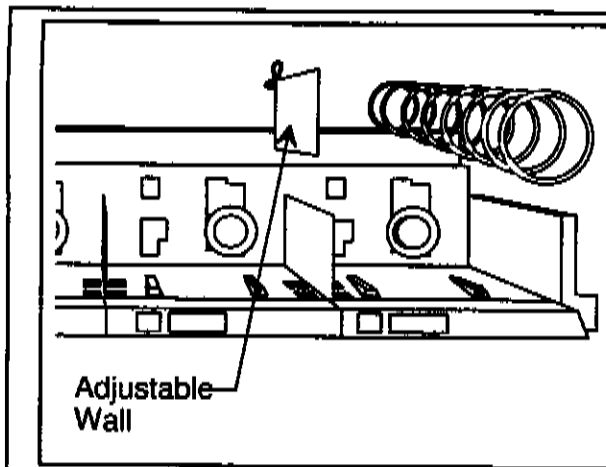
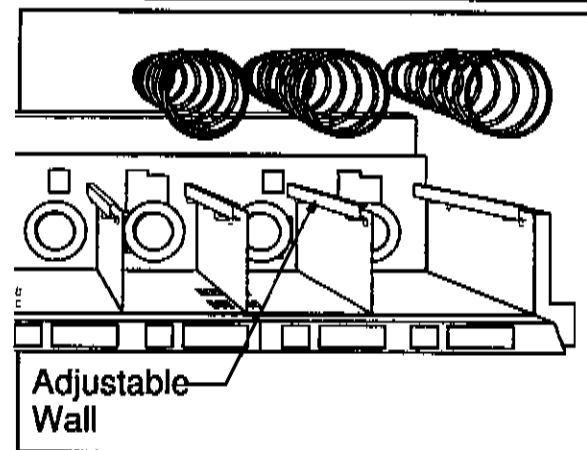

Figure 1-1
Figure 1-2
10. Three (681), four (684) and five (683) selection shelves feature an adjustable wall to the left of the far right spiral. The wall can be installed in any one of the four positions in the bottom of the tray. After adjusting the wall for the desired width, check to be certain that the product moves freely when the selection on each side of the adjustable wall is vended (See *Figure 1-1* and *Page 6-22*). Additional tray walls are shipped with each machine and can be installed in the pastry tray slots to accommodate the narrower items. On 6, 8 or 10 selection trays, the adjustable wall swings out from the right side of the shelf wall (See *Figure 1-2*).